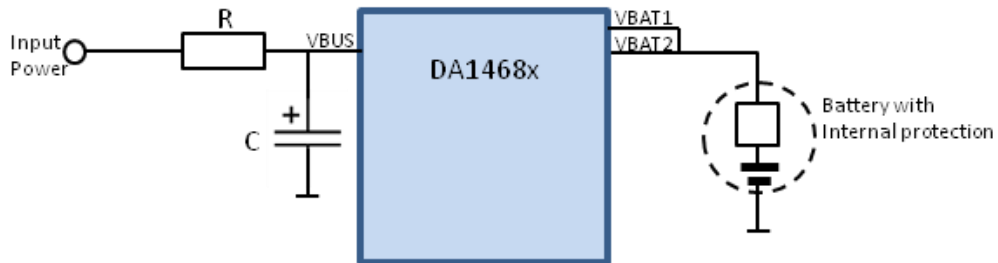

Figure 1: Connection of the External Components and a Lithium Battery to a DA1468x Device
The battery and the external components should be connected to the DA1468x as shown in Figure 1.
- Low temperature of battery protection by fitting external components (NTC thermistor and a resistor, as shown in Figure 1).
- High temperature of battery protection by fitting external components (NTC thermistor and a resistor, as shown in Figure 1).
Charging a battery should only be done within the operating temperature of the battery. The lower and upper temperature limits are defined by the manufacturer of the battery. A resistor should be connected in series with a NTC thermistor which should be fitted on the battery. The value of the resistor should be equal (or nearest) to the resistance value of the NTC thermistor at the upper temperature limit. Temperature measurement using DA1468x device is done by measuring the voltage between the NTC thermistor and the resistor connected as shown in Figure 1. When enabled (NTC\_Disable = 0 in the CHARGER\_CTR1\_REG) the charging circuit will automatically stop the charging process when the temperature is outside the operating temperature range.